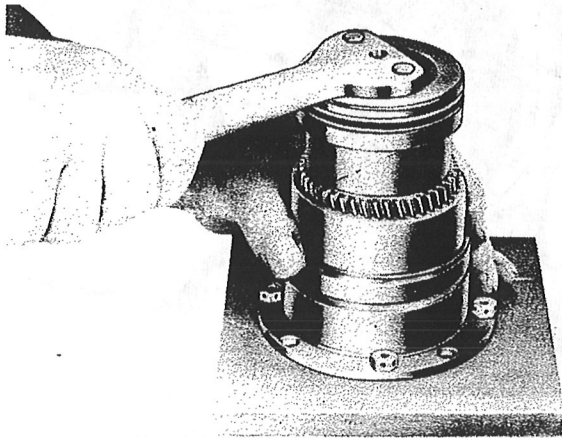

Figure 97—Removing Piston Head
2. Unscrew the head of the piston from the piston skirt. (See figure 97.)